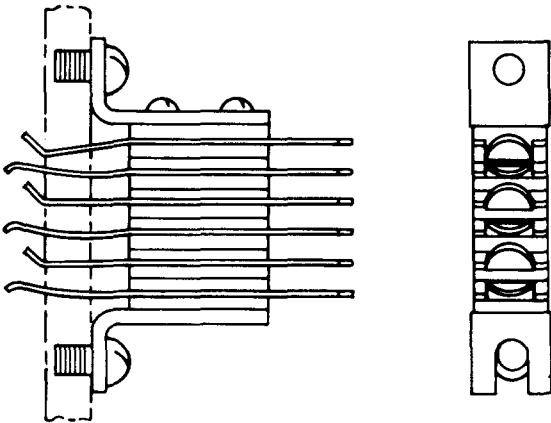

Fig. 16—395A Jack
**2.16 395A:** This multicontact jack (Fig. 16) is arranged for a 240B plug. The jack is used with the SD-31428-01 outgoing repeater circuit in Step-By-Step Telephone Systems. This jack consists of two metal brackets between which are mounted three pairs of contact springs insulated from each other. The terminals are arranged for mechanically wrapped connections.